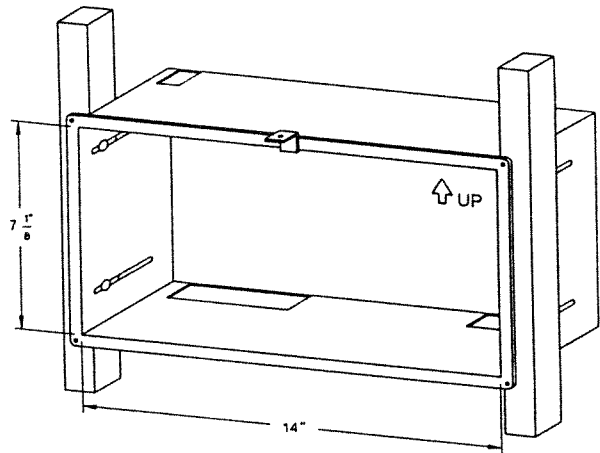

FIGURE 1c
- F) When installing the master backbox housing underneath kitchen cabinets, make sure to leave a minimum of 12 cm(5 inches) of clearance at the top. This space will be required for final installation (see figure 1c)